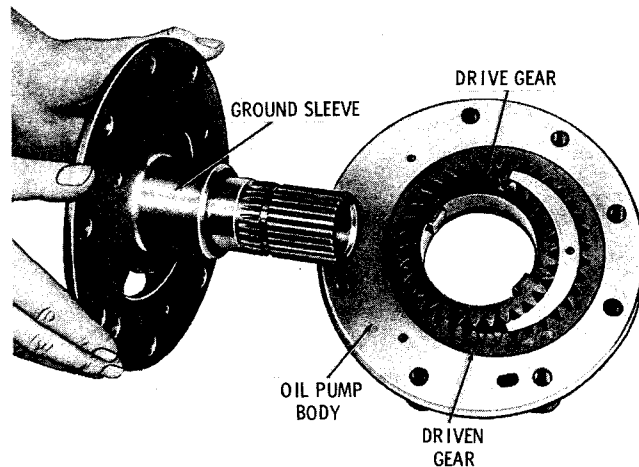

Fig. 6-6. Removing (or installing) stator support (TC 300)
(1) Remove sealring 35 (A, foldout 5) from pump body 32.
(2) Using an Allen wrench, remove three screws 37 from stator support 36.
(3) Remove the converter ground sleeve (fig. 6-6).
(4) Remove the drive gear and the driven gear from the pump body (fig. 6-6).